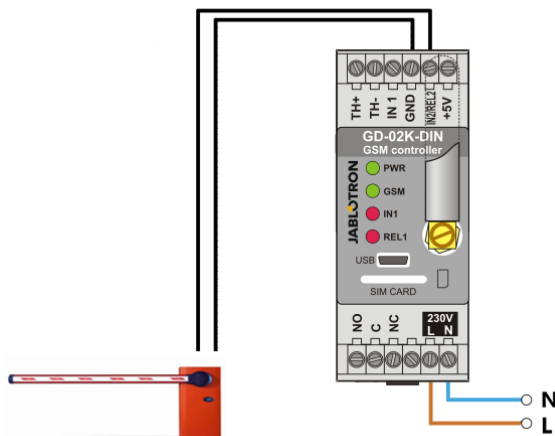

Figure 2: GD-02K-DIN as a gate controller.
- This application requires a contact to be connected to the REL2 output / GND and to the low voltage input of a controlled gate, see Figure 2.